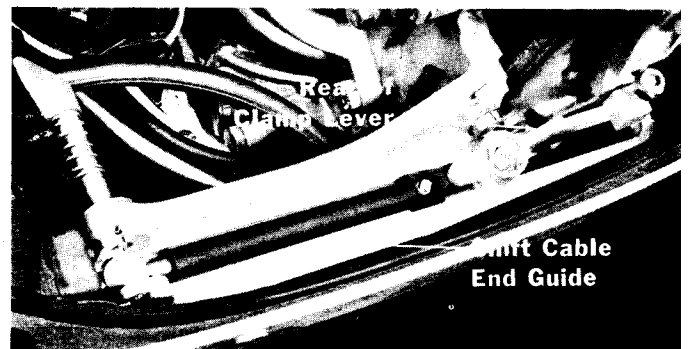

Figure 8. Positioning Lever over Cable End Guide
5. Press down on rear of clamp lever and position lever over cable end guide as shown in Figure 8